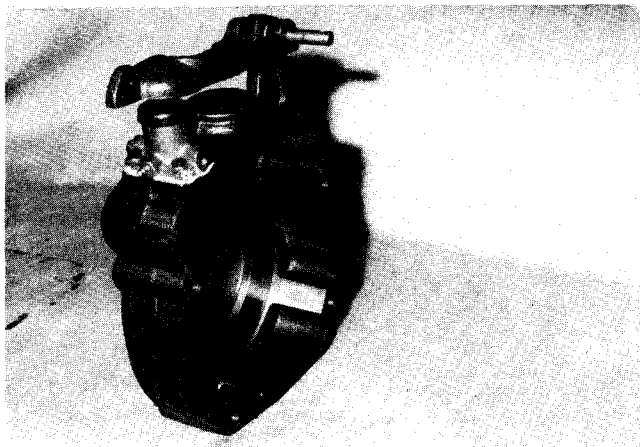

Figure 6
5. Install pin in leverage arm. (Figure 6)